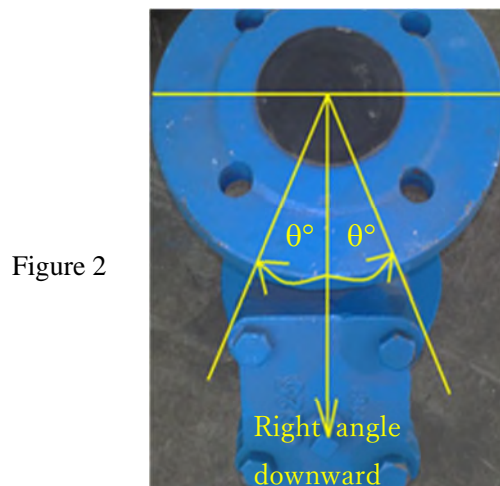

Figure 2
2. If there are any difficulties of installation position where drainage plug side cannot right downward, you may adjust a small degree of deviation (θ°). You may counter clockwise or clockwise not more than 30 degree from the right angle downward (as per Figure 2). However, this type of installation will create the inconvenience on the cleaning work. But, it will not affect the function of the strainer.